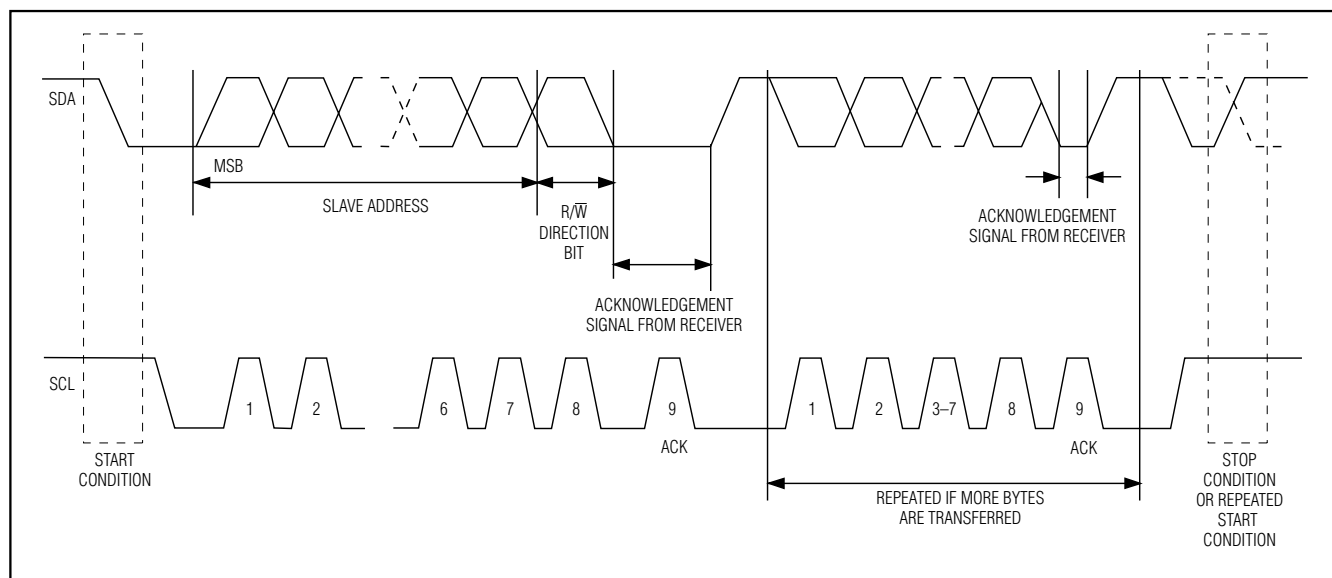

Figure 5. 2-Wire Data Transfer Protocol
**Clock and Data Transitions:** The SDA pin is normally pulled high with an external resistor or device. Data on the SDA pin may only change during SCL-low time periods. Data changes during SCL-high periods will indicate a START or STOP condition depending on the conditions discussed below. See the timing diagrams in Figures 5 and 6 for further details.
**START Condition:** A high-to-low transition of SDA with SCL high is a START condition that must precede any other command. See the timing diagrams in Figures 5 and 6 for further details.
**STOP Condition:** A low-to-high transition of SDA with SCL high is a STOP condition. After a read or write sequence, the stop command places the DS1859 into a low-power mode. See the timing diagrams in Figures 5 and 6 for further details.
The 2-wire serial-port interface supports a bidirectional data transmission protocol with device addressing. A device that sends data on the bus is defined as a transmitter, and a device that receives data as a receiver. The device that controls the message is called a master. The devices that are controlled by the master are slaves. The bus must be controlled by a master device that generates the serial clock (SCL), controls the bus access, and generates the START and STOP conditions. The DS1859 operates as a slave on the 2-wire bus. Connections to the bus are made through the open-drain I/O lines SDA and SCL. The following I/O terminals control the 2-wire serial port: SDA, SCL. Timing diagrams for the 2-wire serial port can be found in Figures 5 and 6. Timing information for the 2-wire serial port is provided in the *AC Electrical Characteristics* table for 2-wire serial communications.
**Data valid:** The state of the data line represents valid data when, after a START condition, the data line is stable for the duration of the high period of the clock signal. The data on the line can be changed during the low period of the clock signal. There is one clock pulse per bit of data. Figures 5 and 6 detail how data transfer is accomplished on the 2-wire bus. Depending on the state of the R/W bit, two types of data transfer are possible.